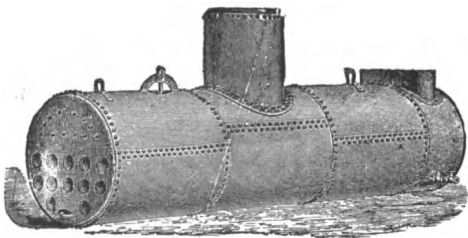

FIG. 2.—“ ERIE CITY ” TEN-FLUE TYPE.
A. Into types having from five large flues to ten as shown in Fig. 2.